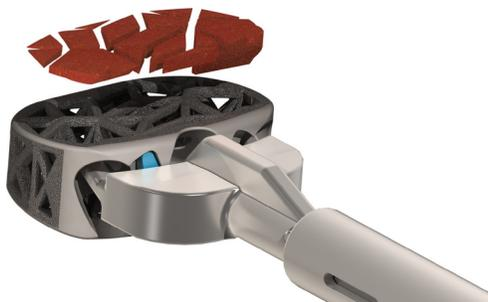

Figure 28
- ▲ Pack the implant with autologous and/or allogenic bone graft (Fig. 28). For best results, cut or morselise the bone graft into 1-2mm sized particles. Place the morselised bone into the top or bottom web structure (top and bottom are interchangeable).